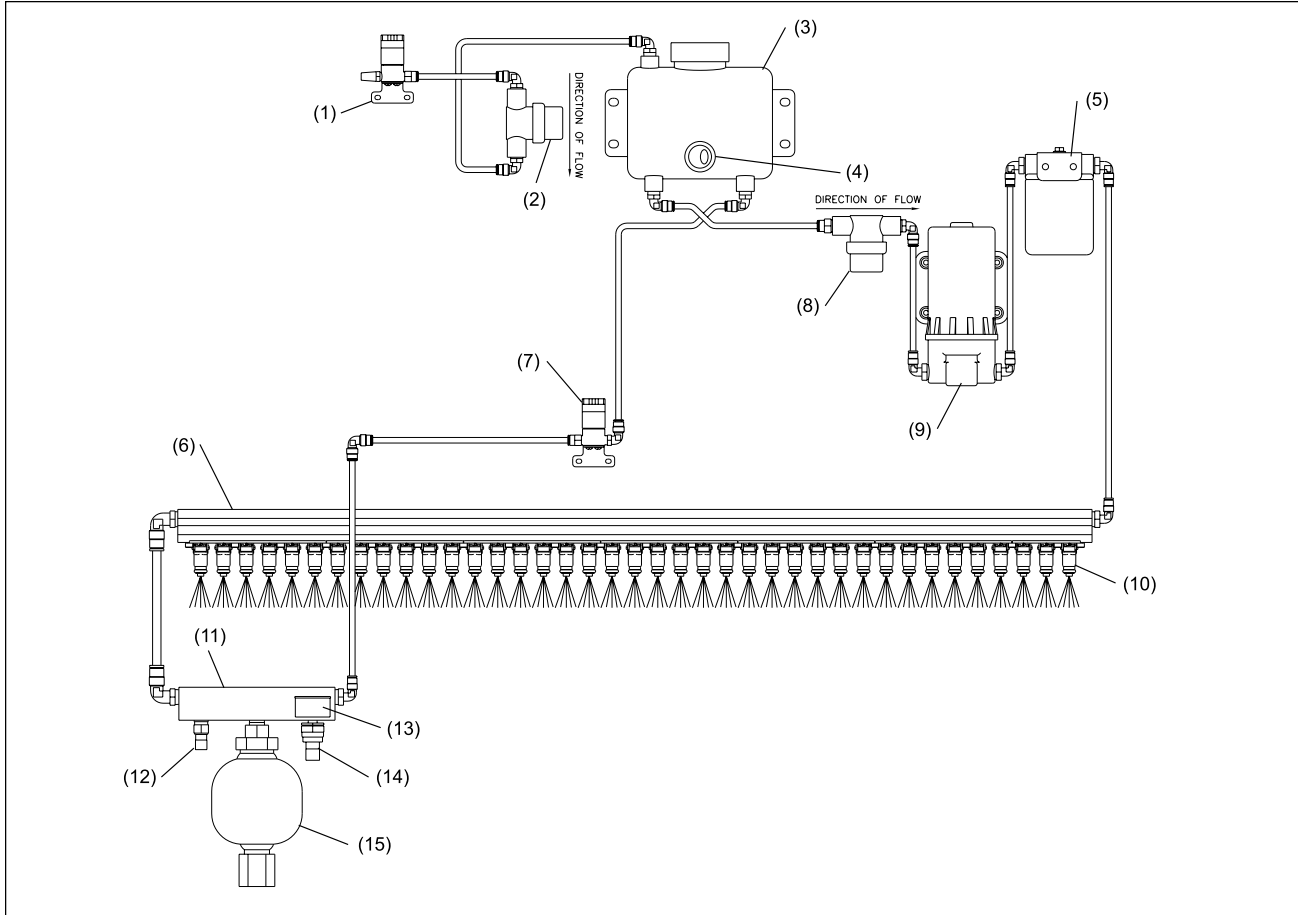

Figure 2-6. Conditioning System
1. 39 **conditioner injectors** mounted on a pressurized **injector rail assembly** apply conditioner to the lane surface according to the selected pattern. Refer to Figure 2-6.